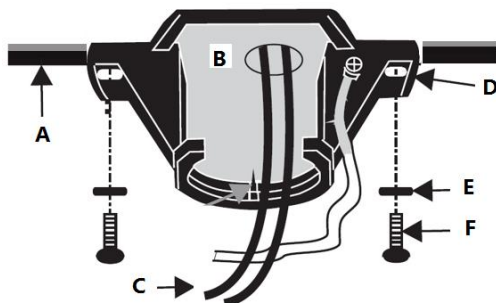

Fig. 6
Pass the power supply wires (C) from the ceiling outlet box (B) through the center of the ceiling mounting bracket (D). Install the ceiling mounting bracket (D) on the outlet box (B) with the mounting screws (F) provided with the outlet box and washers (E) provided with fan. **Fig. 6**